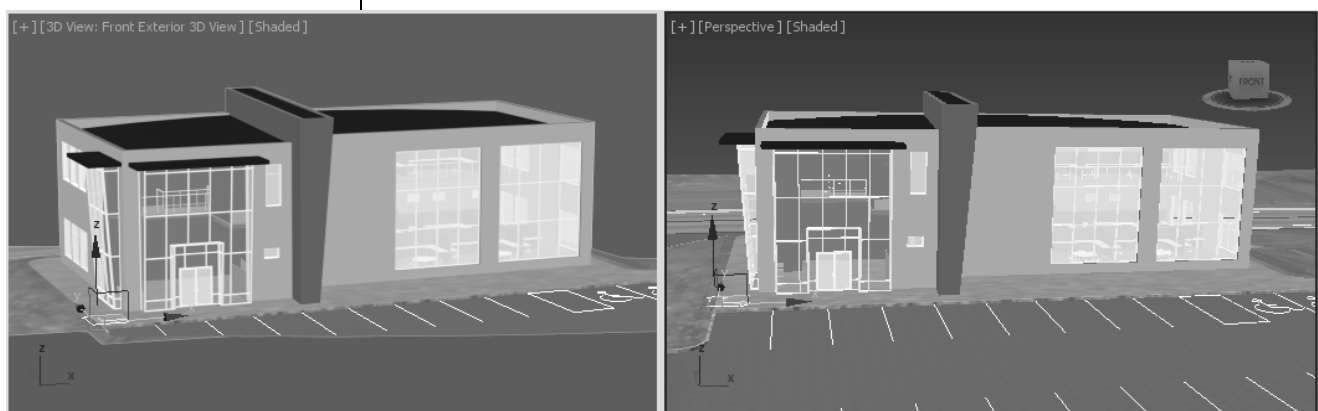

Figure 3-39
18. In the Perspective viewport, use  (Zoom) and  (Orbit) to zoom into the building and parking lot area, as shown in Figure 3-39.
20. Use **Pan** to display the complete building in the Left viewport, as shown in Figure 3-39.